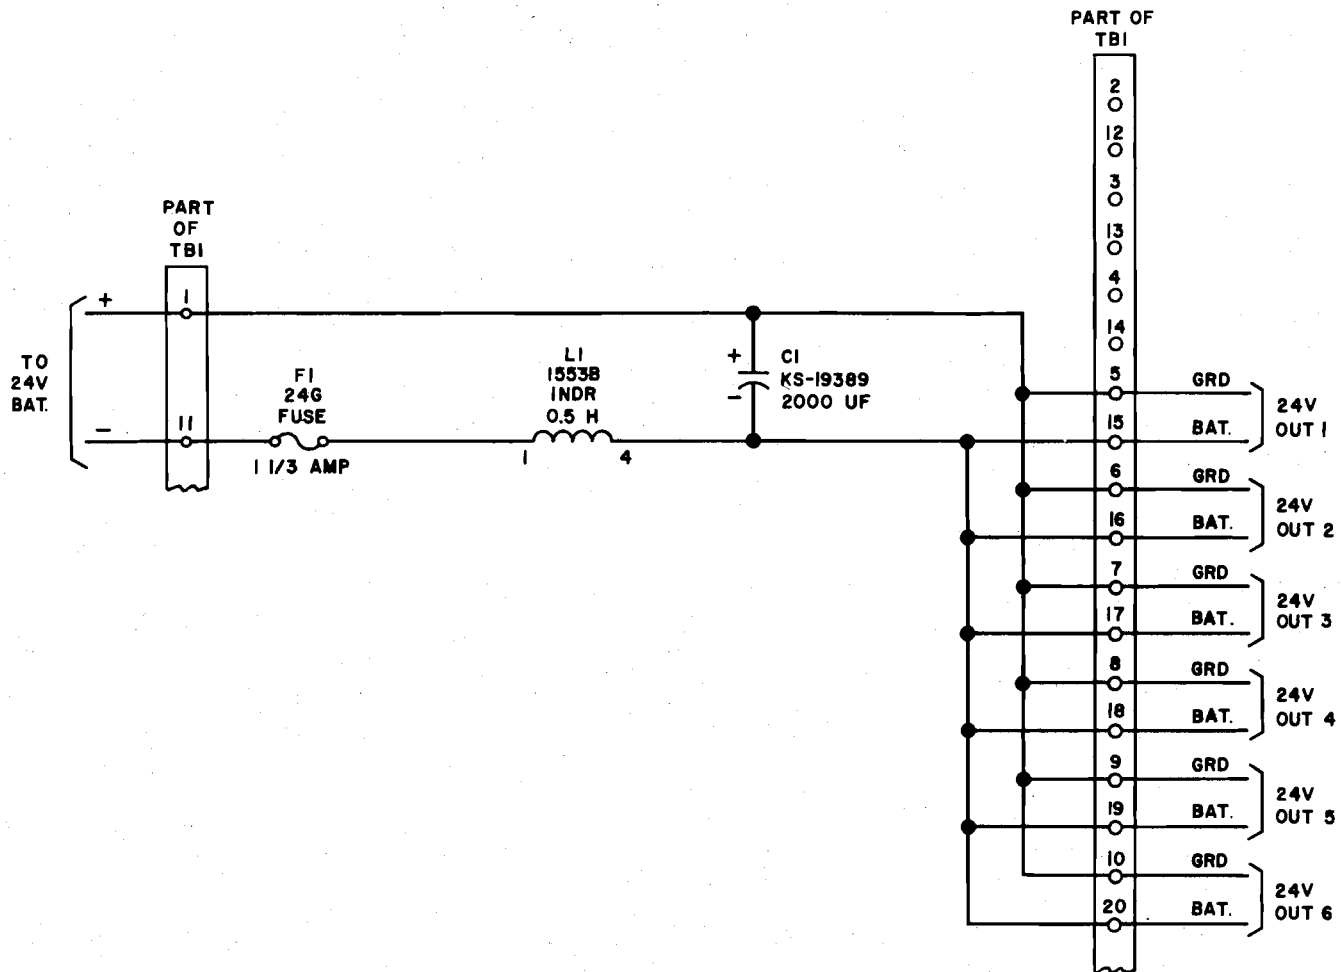

Fig. 3 - 24-Volt Filter for 1 to 12 Amplifiers
3.03 To operate from 24 volts (1) strap terminal 23 to 24 and (2) connect -24 volt battery lead to terminal 24 and ground lead to terminal 28. A noise suppression filter (see Fig. 3), electrically the same as J98615AM, is required when the battery supply does not meet the requirement of 3.04. It has been made available on a panel 2.16 inches wide by 6.94 inches high and is designed to mount on 6.56-inch vertical hole centers (the same as the 24V4B repeater). A filter panel may be used for as many as 12 amplifiers and is provided with a single common fuse. Each 24V OUT provides output for two amplifiers.